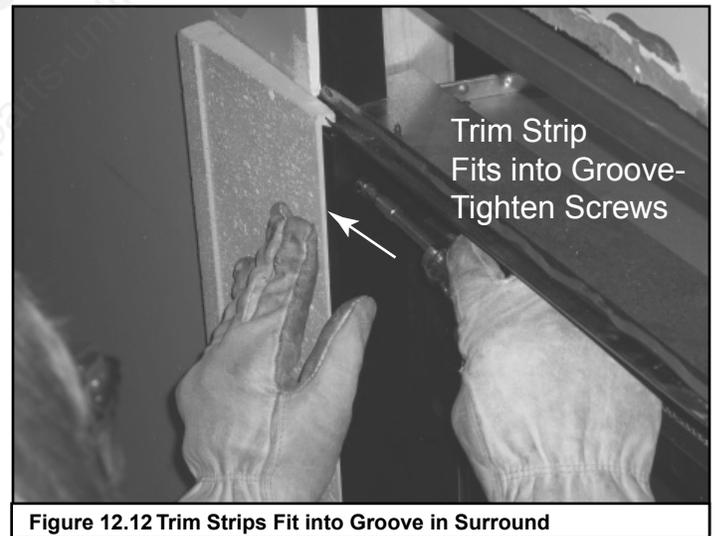

Figure 12.12 Trim Strips Fit into Groove in Surround
- Tighten screws holding trim strip. See Figure 12.12.